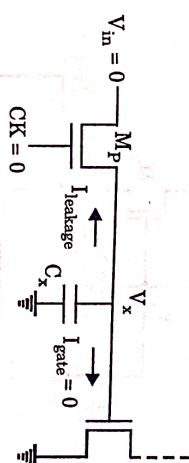

Fig. 3.4.1.
- Let us assume that high logic has been transferred to the soft node during active clock pulse, and both the input voltage V_{in} and clock are equal to 0 V as shown in Fig. 3.4.1.